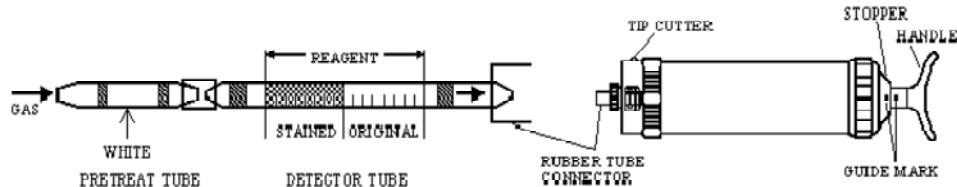

Fig.1
- ① Break both ends of detector tube and pretreat tube, and connect each end of the detector tube and pretreat tube with rubber tube connector as shown in Fig.1.
- ② Insert the detector tube into aspirating pump securely as shown in Fig.1 (Arrow mark shall point to the pump.)
- ③ Align the guide marks on the shaft and stopper of the aspirating pump.
- ④ Pull the pump handle at full stroke until it locks and wait for 1.5 minutes or until the completion of sampling is confirmed with the flow indicator of the pump (See descriptions about the flow indicator in the instructions of the pump).
- ⑤ On completion of sampling, read the scale at the maximum point of the stained layer.
- ⑥ If the discoloration is over the scale, change the tube and pull 1/2 strokes.